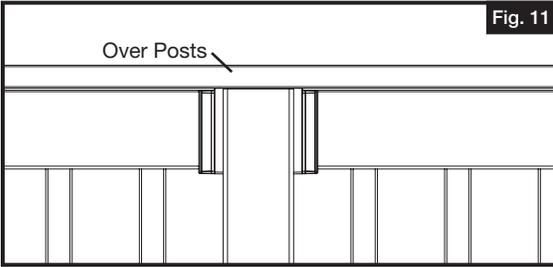

Fig. 11
- c. If installing railing OVER the post (Fig. 11):